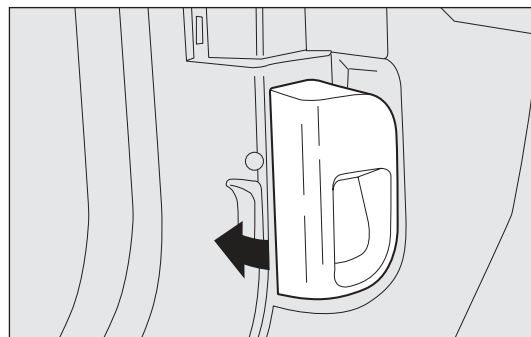

fig. 100
- ☐ pull the lever fig. 100 in the direction of the arrow;